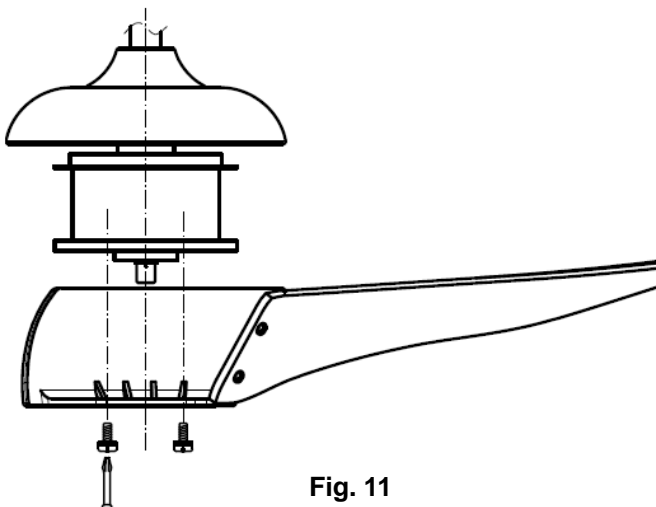

Fig. 11
4. Install the blade assemblies to the motor by tightening the 2 motor screws. **Fig.11**